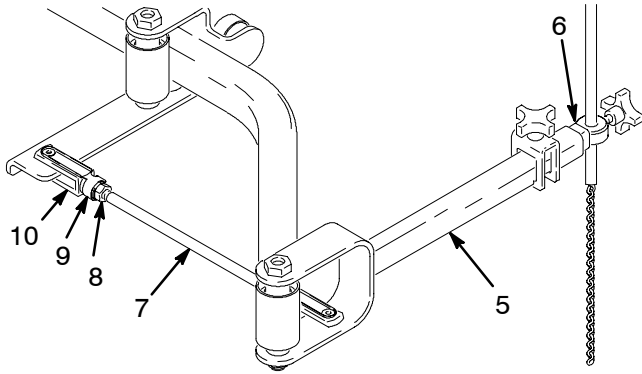

Fig. 10 9236A
NOTE: If d ends up being less than 26 in. (660 mm), remove pointer extension arm (6), and cut off 1 to 6 in. (25 to 150 mm) with hack saw so you can slide it farther into pointer arm (5). Pointer arm and extension arm are shown clearly in Fig. 10 on page 9.
NOTE: If pointer is off line, see Fig. 10: Remove clevis pin (9) from one end of threaded rod (7), and loosen nut (8) at end from which you removed clevis pin. If pointer was toward truck, turn clevis fastener (10) in to shorten rod. If pointer was away from truck, turn clevis fastener out to lengthen rod. Each turn of clevis fastener adjusts pointer approximately 1/4 in. (6 mm).